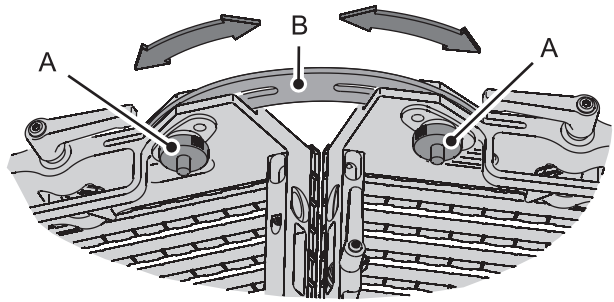

Figure 2: Locking panel angles in a curved array
4. See Figure 2. Install the thumbwheels **A** supplied in the Kit on the top and bottom profiles of each panel, using the supplied locknuts to secure them in place so that they will not drop out of the panel if loosened too much.